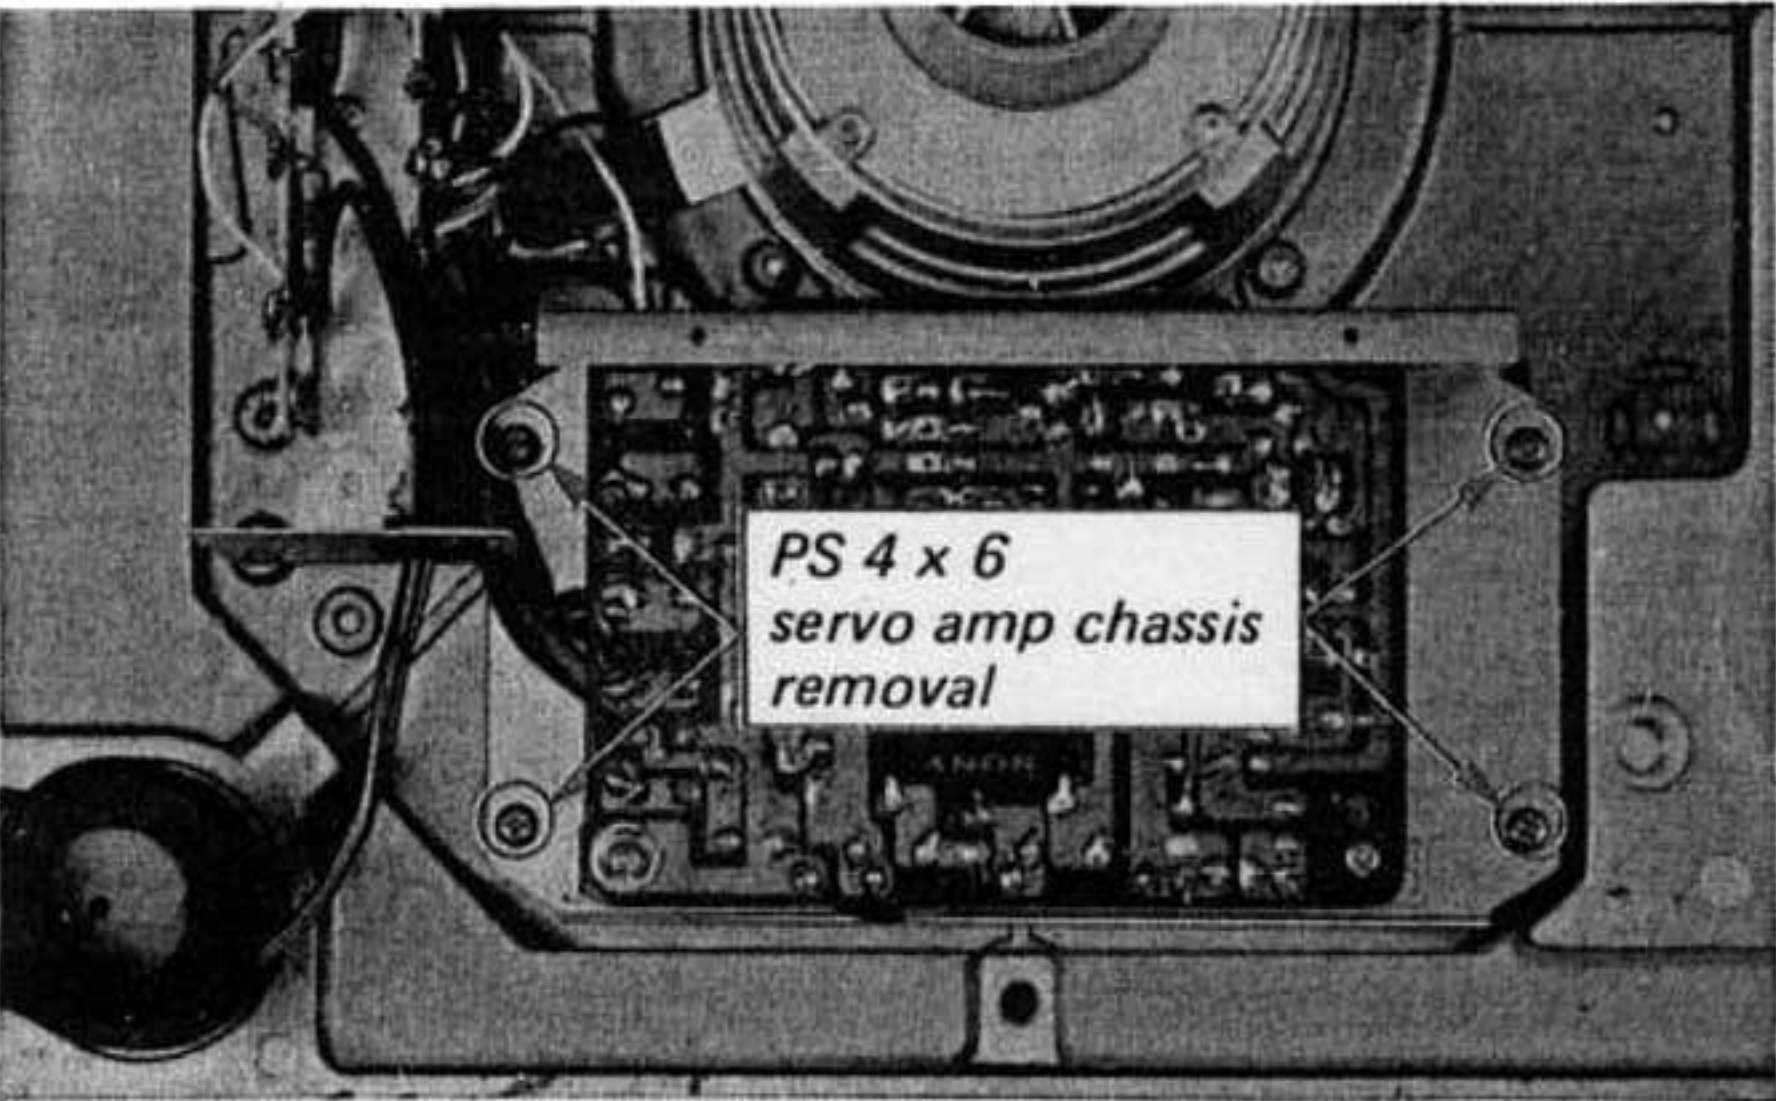

Fig. 2-5. Servo amplifier chassis removal
- 2. Remove the four screws (PS 4 x 6) shown in Fig. 2-5. This frees the chassis.